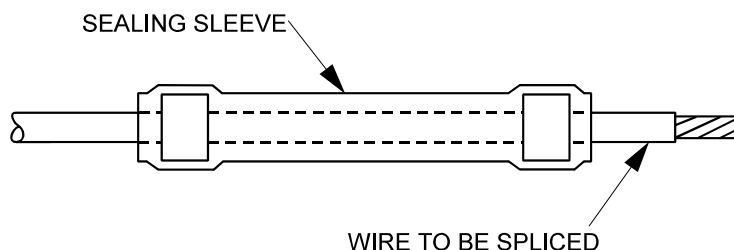

Figure 6-11 Procedure for Installing Sealing Sleeve
- f. Slide sealing sleeve over one end of the stripped wire, as shown in Figure 6-11.